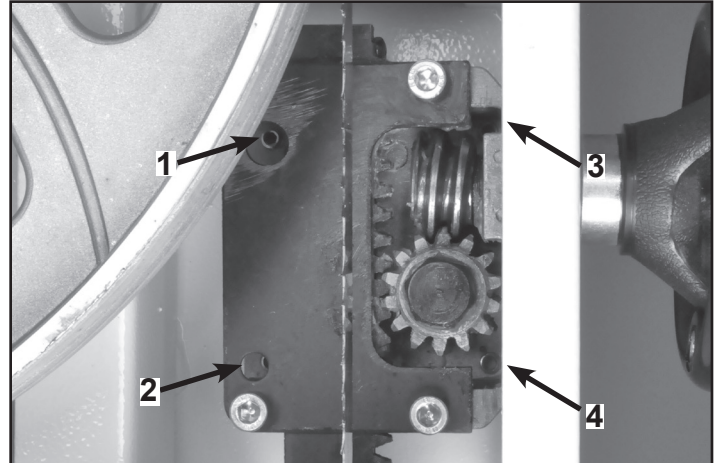

FIGURE 31
3. Open the top door and lower the blade guard all the way down to the table to access the Guide Bracket block. Fig. 31.
5. There are also four Set Screws (Fig. 31) set in the rear of the guide bracket near the corners. If the guard post needs to be angled slightly towards the front or back of the table, or even twisted on an angle, make the adjustment with these screws.